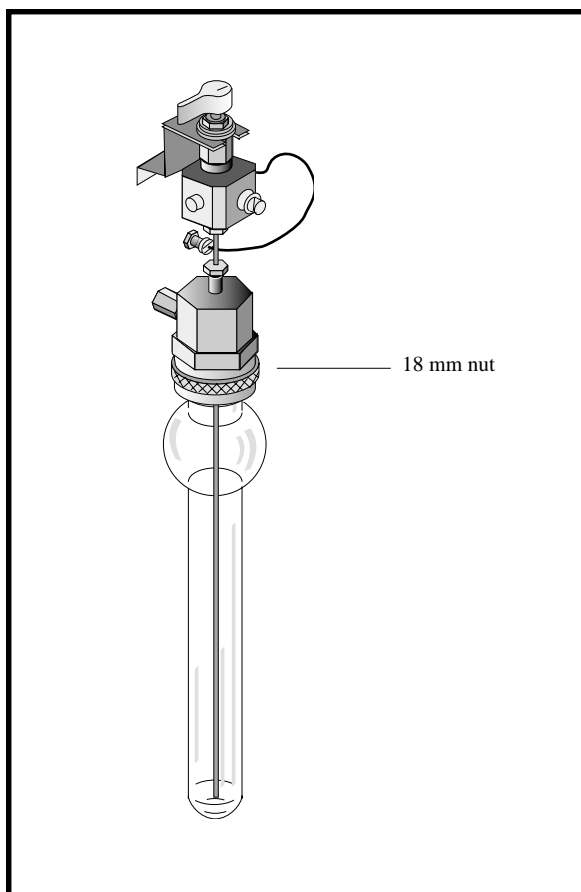

Figure 3.5. Needle Sparger Assembly
1. Loosen the 18-mm nut at the bottom of the sparge mount. Slide the needle sparger over the needle and into the 18-mm nut (see Figure 3.5). Finger-tighten the nut, or use the 18-mm wrench provided, for a secure fit.